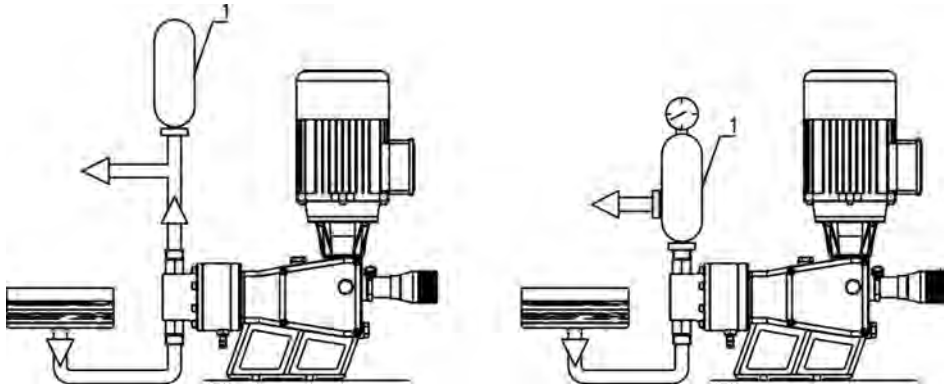

Fig. 8 – Layout of Pulsation Dampener
5.3.3 Pulsation Dampener. (Ref.1 - Fig.8)